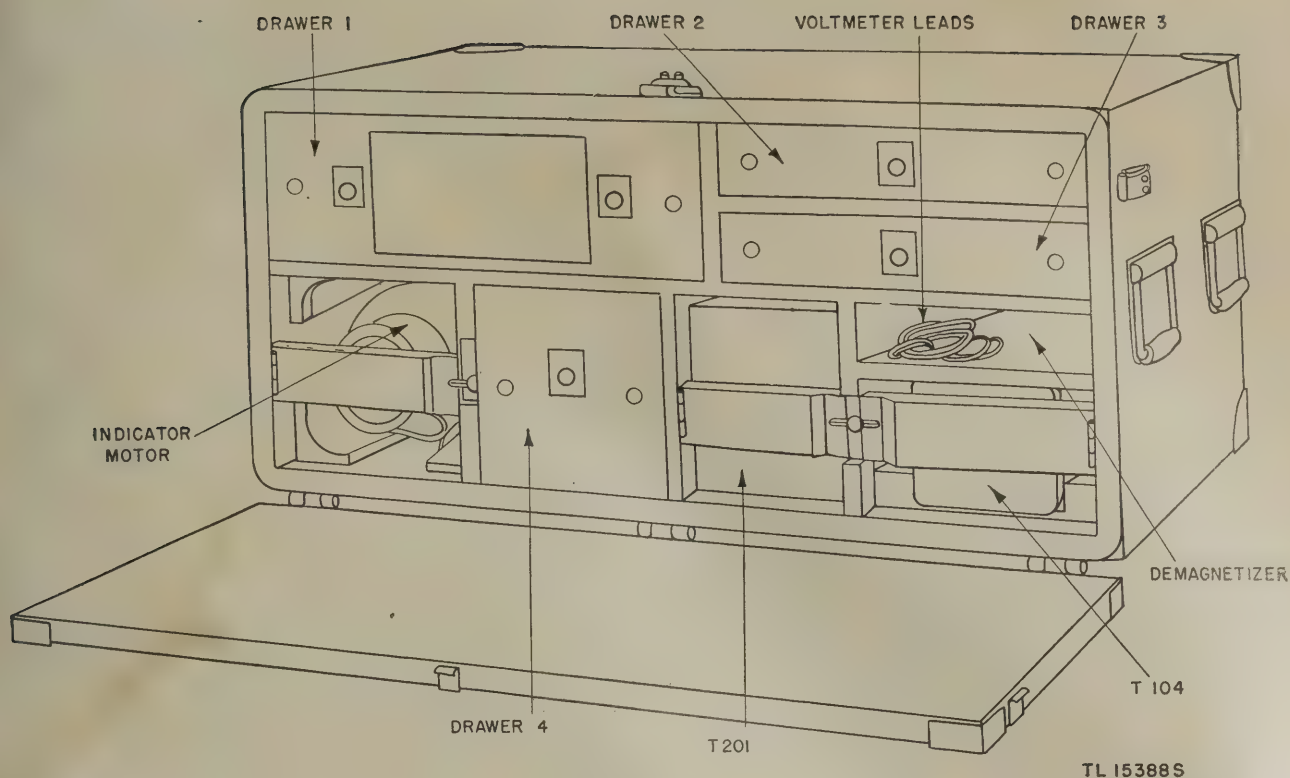

Figure 93. Spare parts chest, open.
a. The spare parts chest (fig. 93) is furnished on Order No. 1435-MPD-45.